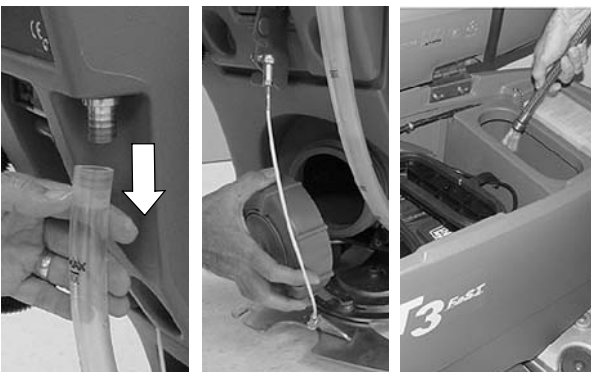

FIG. 40
3. Drain the solution tank and rinse out the inside with water (60°C maximum) as needed (Figure 40)